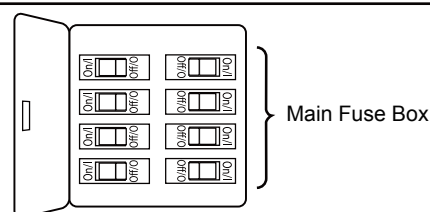
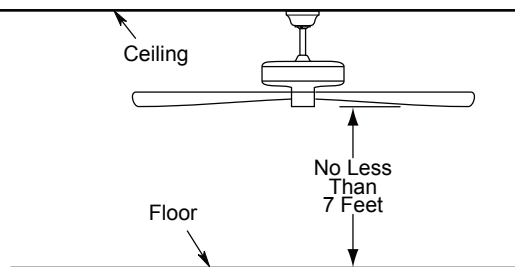
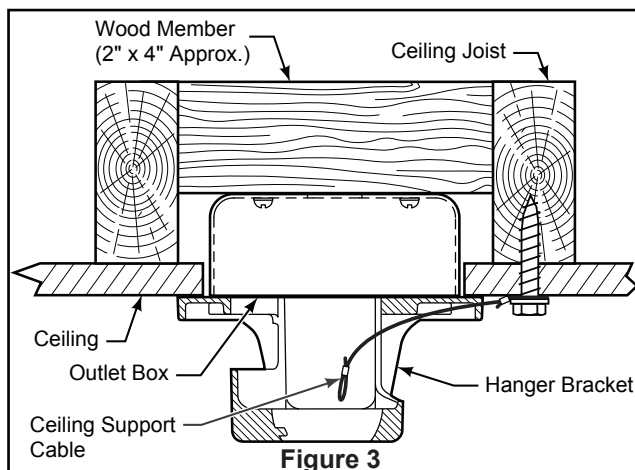

Figure 1
Figure 2
Figure 3
Your new ceiling fan will require a grounded electrical supply line of 120 volts AC, 60 HZ, 15 Amp Circuit. Electrical code requires use of a fan-rated outlet box to support the extra weight and motion associated with a ceiling fan. A fan-rated box will be labeled as such and typically supports up to a 70lb ceiling fan. Fan-Rated Outlet Boxes vary in ratings and design. Ensure the ratings of your ceiling fan outlet box meet the requirements for the ceiling fan being installed. Figure 1, Figure 2 and Figure 3 depicts different structural configurations that may be used for mounting the outlet box.
Low profile box (Figure 1)
Deep box (Figure 2)
Deep box with brace (Figure 3)
1. Remove the hanger ball portion from the downrod/hanger ball assembly by loosening the set screw in the hanger ball until the ball falls freely down the downrod. Remove the pin from the downrod, then remove the hanger ball. Retain the pin and hanger ball for reinstallation in Step 6. (Figure 1)
2. Remove the hairpin clip and clevis pin from the bottom of the downrod. Retain the pin and clip for reinstallation in Step 4. (Figure 2)
3. Loosen the two set screws and locking nuts in the downrod support of the motor assembly. Route the brown, blue, red, gray, yellow wires and safety cable through the downrod. (Figure 3)
To avoid possible fire or shock, be sure electricity is turned off at the main fuse box before hanging. (Figure 1)
The fan must be hung with at least 7' of clearance from floor to blades. (Figure 2)
- ☐ 1. Securely attach the hanger bracket to the outlet box using the outlet box screws and washers supplied with the outlet box. (Figure 3)
- ☐ 2. Drill a 1/4" pilot hole into the building structure to prevent splitting or cracking with installation of the lag bolt. Using the 3/8" x 2" lag bolt and flat washer, attach safety cable to ceiling joist or wood structural member. The lag bolt will pass through the flat washer, safety cable loop, and into the building structure. (Figure 3)
NOTE: Ceiling support cable cannot be secured to outlet box only, it must be directly secured to ceiling joist or structural member using the 3/8" x 2" lag bolt and flat washer. (Figure 3)
1. To set the code on receiver unit, slide dip switches to the same positions as set on the remote control. (Figure 1)
To avoid possible electrical shock, be sure electricity is turned off at the main fuse box before wiring. (Figure 2)
2. Slide the receiver into the hanger bracket before wiring as shown in figure 3.
- ☐ 1. Align holes in the canopy with holes in the hanger bracket, taking care not to pinch the wires. And securely attach canopy using the two shoulder screws from the hanger bracket. (Figure 1)
- ☐ 2. Securely attach and tighten the canopy screw cover over the shoulder screws in the hanger bracket utilizing the key slot twist-lock feature. (Figure 2)
1. Remove and discard the four rubber/screws motor stops from the motor assembly. (Figure 1)
2. Lay the side of the blade holder on a flat surface with the inside of the blade holder facing up. Assemble the blade to the blade holder with the carriage nuts, flat washers and screws. Make sure that the blades are fully seated against the blade holders. Tighten screws with screwdriver, don't over-tighten. (Figure 2)
3. Attach assembled blades and blade holders to the motor hub using the provided screws with lock washers from the hardware bag. Make sure the screws securing the blade holders to the motor hub are tight and that the blade holders are properly seated. (Figure 3)
- ☐ 1. **IMPORTANT:** Using a full range dimmer switch (not included) to control fan speed will damage the fan. To reduce the risk of fire or electrical shock, do not use a full range dimmer switch to control the fan speed. (Figure 1)
- ☐ 2. Restore electrical power to the outlet box by turning the electricity on at the main fuse box. (Figure 2)
- ☐ 3. Remove the battery cover from remote control by screwdriver and retain the screw for later. (Figure 3)